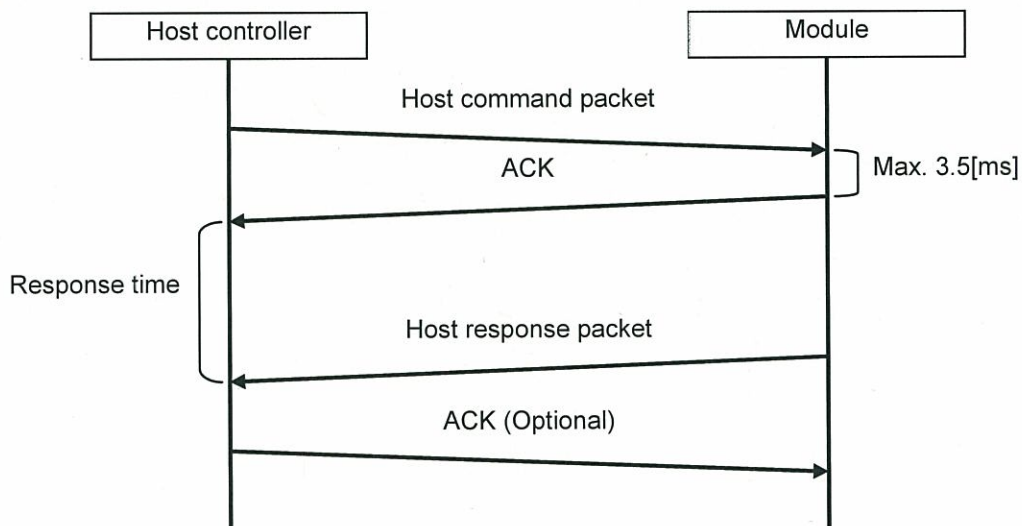

Figure 3-1: Communication protocol between host controller and module
A) Figure 3-1 shows a typical communication sequence on the data link level.